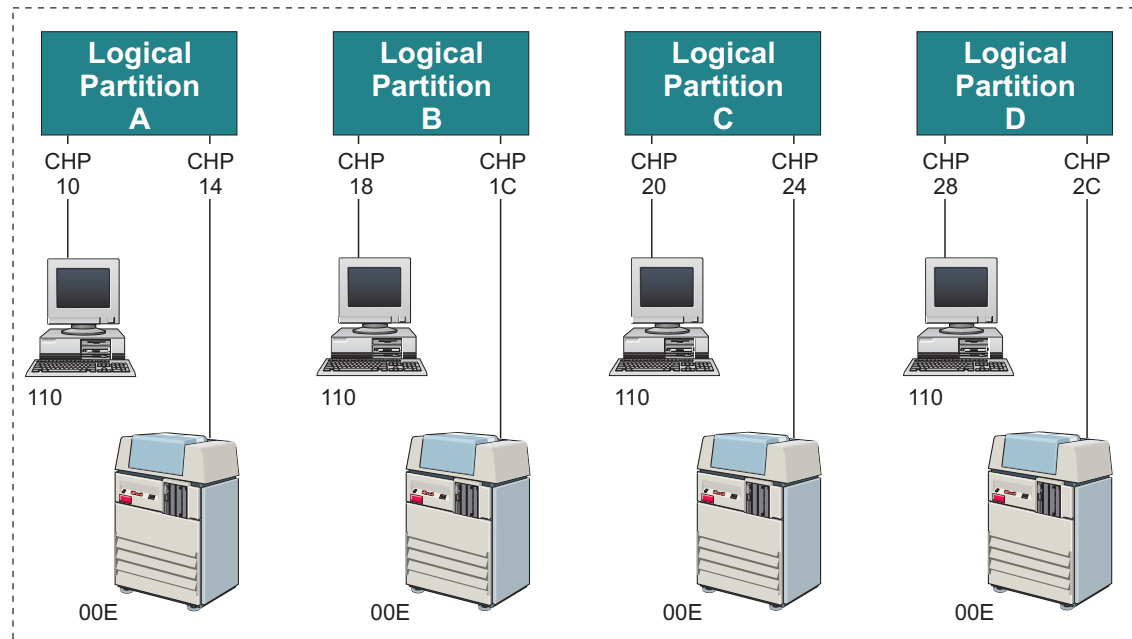

Figure 20. LPAR configuration with duplicate device numbers
Figure 20 illustrates a configuration where duplicate device numbers are used to represent a console (110) and a printer (00E) within each of four logical partitions.
The following example shows the IOCP statement for Figure 20. This IOCP coding example groups the input statements by logical partition. When coding IOCP, view the I/O devices from a logical partition perspective.